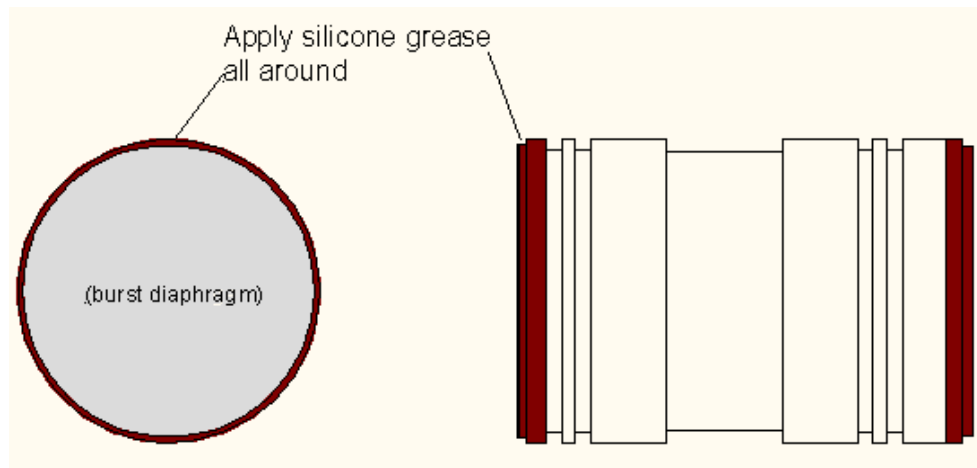

Figure 6 – Application of protective silicone grease on Mid-bulkhead
- 4. Apply a generous amount of silicone grease in the ablative “step” adjacent to the burst diaphragm, as illustrated in Figure 6.